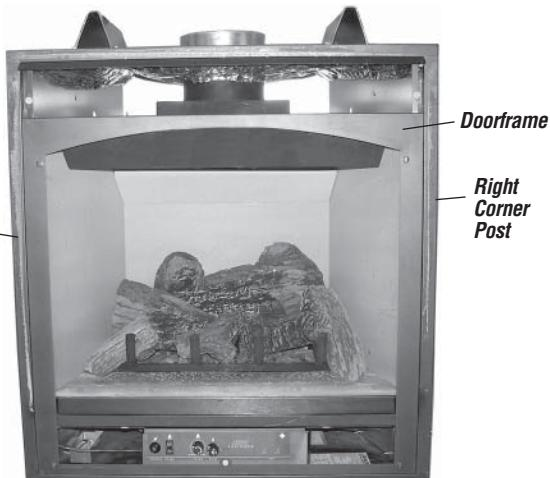

Figure 6 - INSTALL DOORFRAME
5. **Install Doorframe (see Figure 6)** - Remove the arched doorframe from packaging. Position the top of the doorframe above the top of the glass doorframe (centered and approximately 1" above the top of the glass doorframe). Slide down so that the hooks catch on the back of the doorframe slide between the sides of the glass door and the corner posts engaging into existing slots on fireplace.